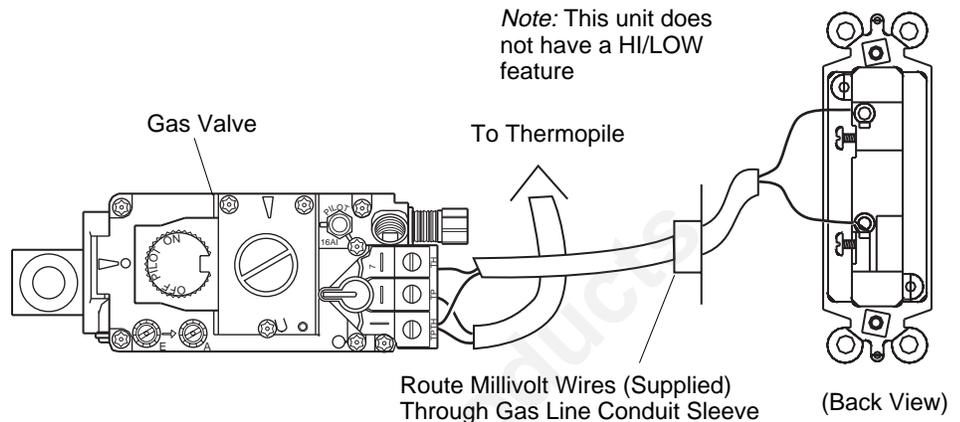

Figure 35 - Wall Switch Wiring Diagram
2. Connect the 18 ga. wires from wall switch (not included) to the gas control valve and microswitch, as shown in Figure 35.
2. Disconnect wall switch wires from TH and TPTH terminals on control valve (see Figure 35).